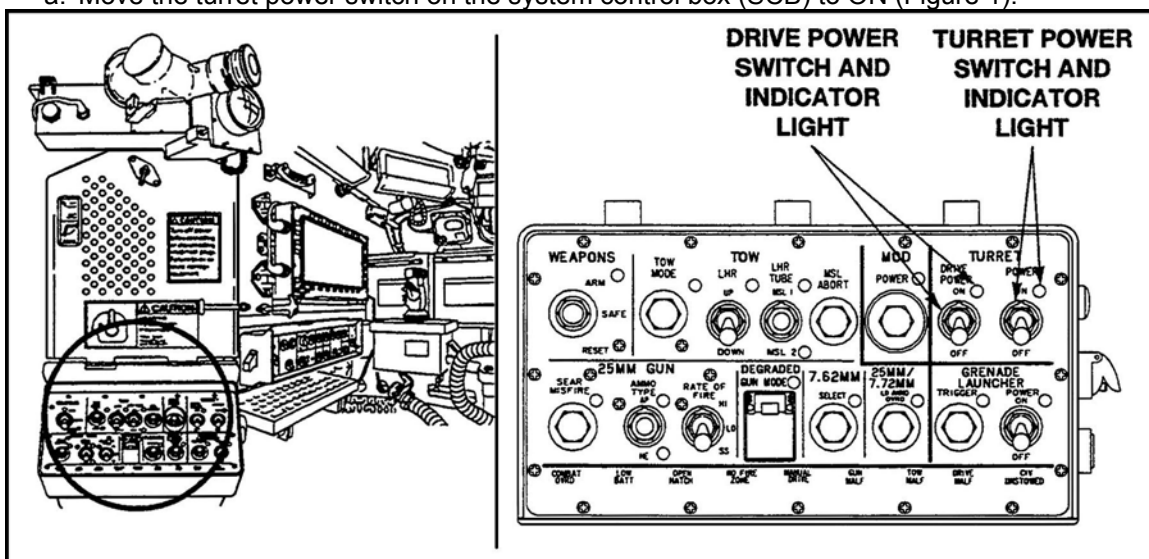

Figure 1. Turret power switch.
**Conditions:** Given an operational M2A3/M3A3 BFV with basic issue items, an installed M240C coaxial machine gun, 25mm Armor Piercing (AP) ammunition loaded in the ready box, 7.62mm ammunition loaded in the coaxial machine gun ready box, a 1200 meter 25-mm zero target, and an 800 meter coaxial machine gun target. The weapon systems have been boresighted and there is a requirement to zero the weapon systems.
- a. Move the turret power switch on the system control box (SCB) to ON (Figure 1).